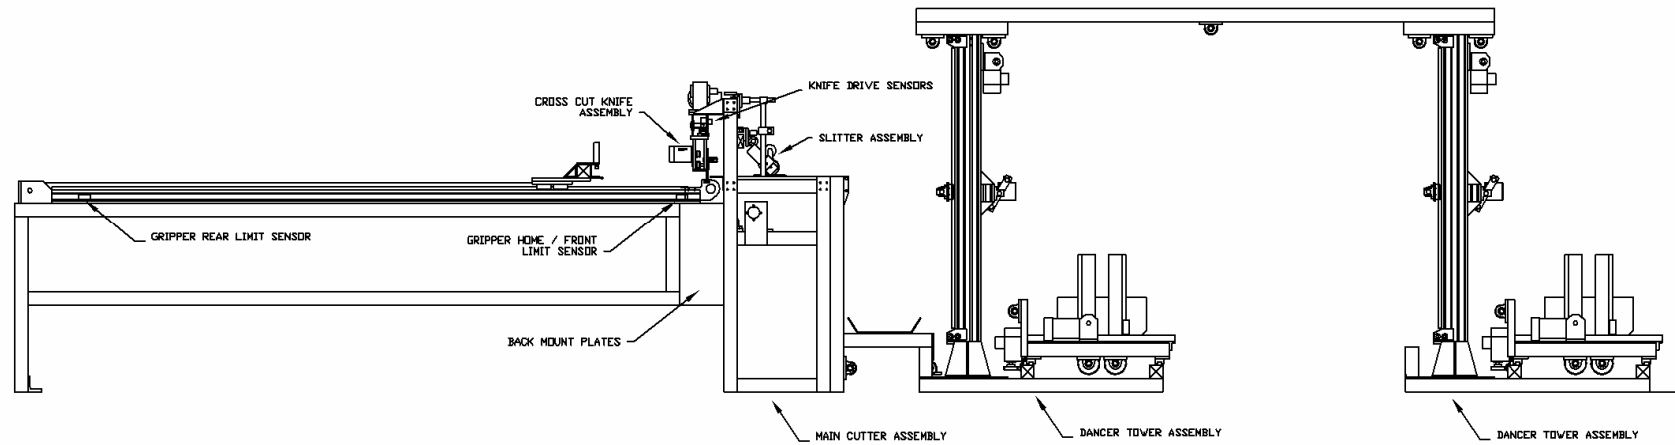

Figure 2.0: Machine layout
Attach two (2) machine legs to the pull arm linear drive assemblies and loosely fasten the linear drives to the back mount plates on the main unit (See Figure 2.0). **NOTE: The linear drive assembly with the flexible wire duct must mount closest to the electrical cabinet.**
The main cutter is the most complex module of the panel cutter system (see figure 2.0). It consists of a cross cut knife assembly and servo controlled pneumatic gripper. Depending upon the options that were purchased with the machine the main cutter may also contain slitters and vacuum systems.